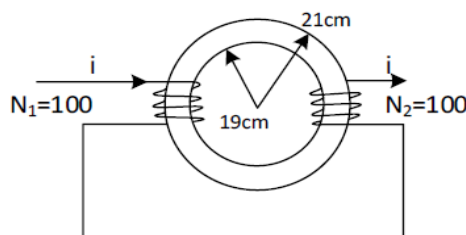

Fig. 3
3. Two coils are wound on a toroidal core as shown in Fig.3. The core is made of silicon steel and has square cross section. The coil current is  $1\text{A}$ . B-H data is given below.